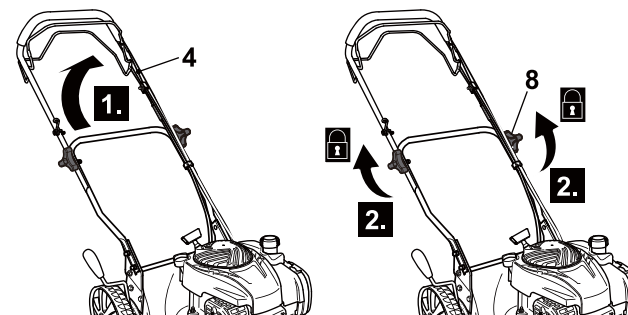

Fig. 5
7. Unfold the upper handle bar (4) and use the locking knob (8) to fix it (Fig. 5).